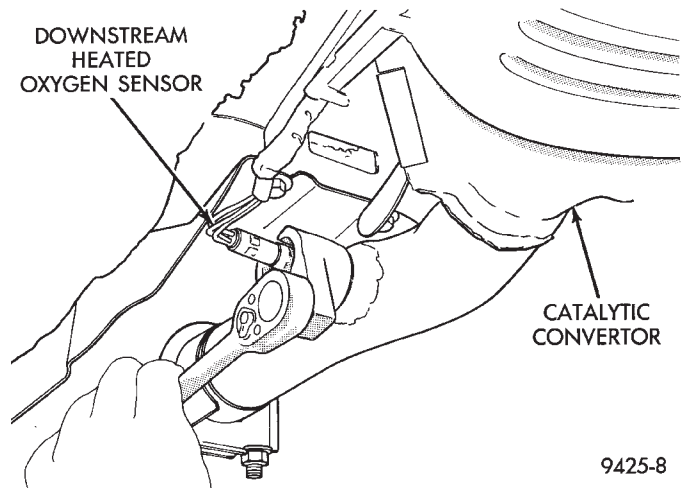

Fig. 81 Downstream Heated Oxygen Sensor Removal/Installation
- (1) Raise vehicle.
- (2) Disconnect electrical connector from sensor.
- (3) Disconnect sensor electrical harness from clips along body.
- (4) Remove sensor using an oxygen sensor crow foot wrench such as Snap-On tool YA8875 or equivalent (Fig. 81).